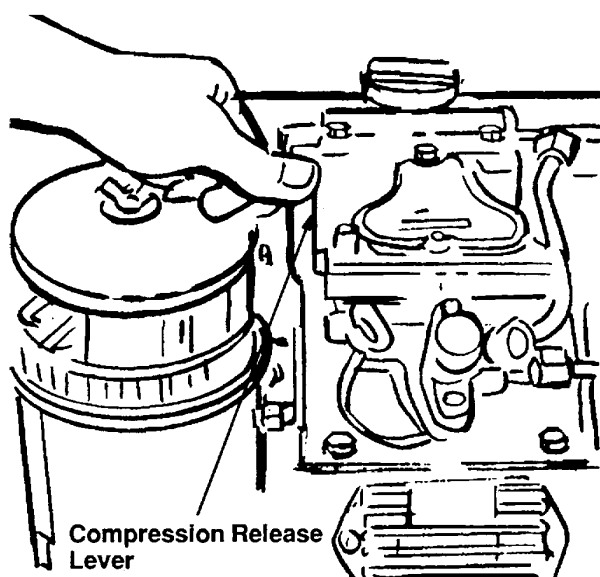

Figure 2-12. Activating Compression Release Lever
e. Push compression release lever on top of engine toward the rear of the trailer and hold, Fig. 2-12.